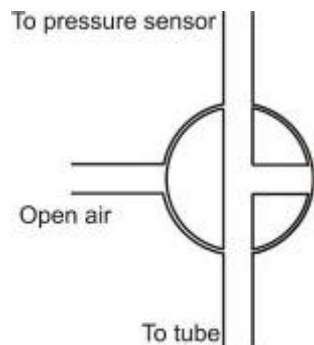

Figure 2: Three-way valve – Position B
3. (If your setup includes three-way valves) Turn the three-way valves to seal the system from the surrounding air (Position B – see Figure 2)